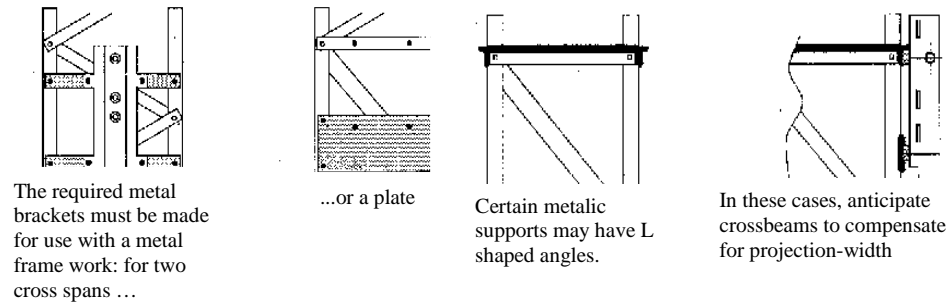

Figure 12
A.- Support elements must be made for use with a metallic support (figure 12):